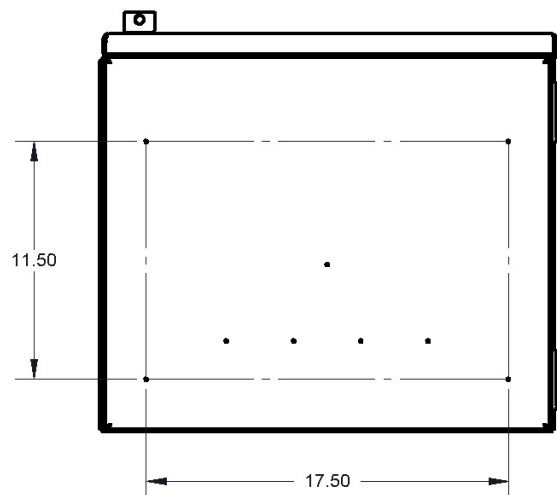

Figure 9 — Enclosure/Plinth Mounting Hole Locations
4. On the bottom of the enclosure, locate the four outer mounting hole locations denoted by centerpunch marks as shown in Figure 9. Drill out 0.281" diameter holes in each location for the 1/4" bolts installed in the next step.